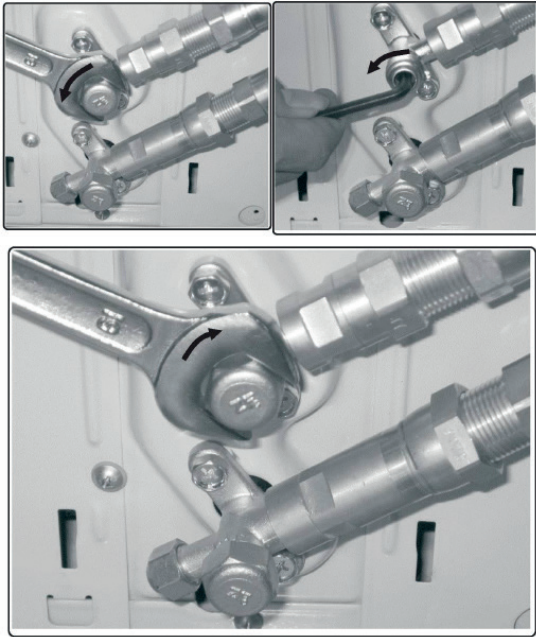

Fig. 6.5
5. Now remove the cover on the top valve using a 19 mm open-ended spanner. Open the valve by turning it counter-clockwise as far as it will go using a 5 mm Allen key. The valve is now open. If the valve is not opened fully, the system may malfunction and suffer damage. Screw the cover back on to the top valve and tighten it well to ensure that it is properly sealed. See Fig.6.5.